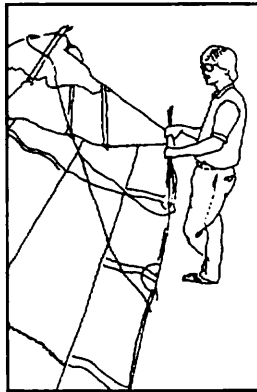

Figure 62
9) Fold the wings in the rest of the way and pull the sail over the top of the leading edges. Roll the straight battens and the washout tips in the sail, and tie the sail with the velcros provided. We recommend that you roll and tie each side of the sail separately. (Figure 62, 63)